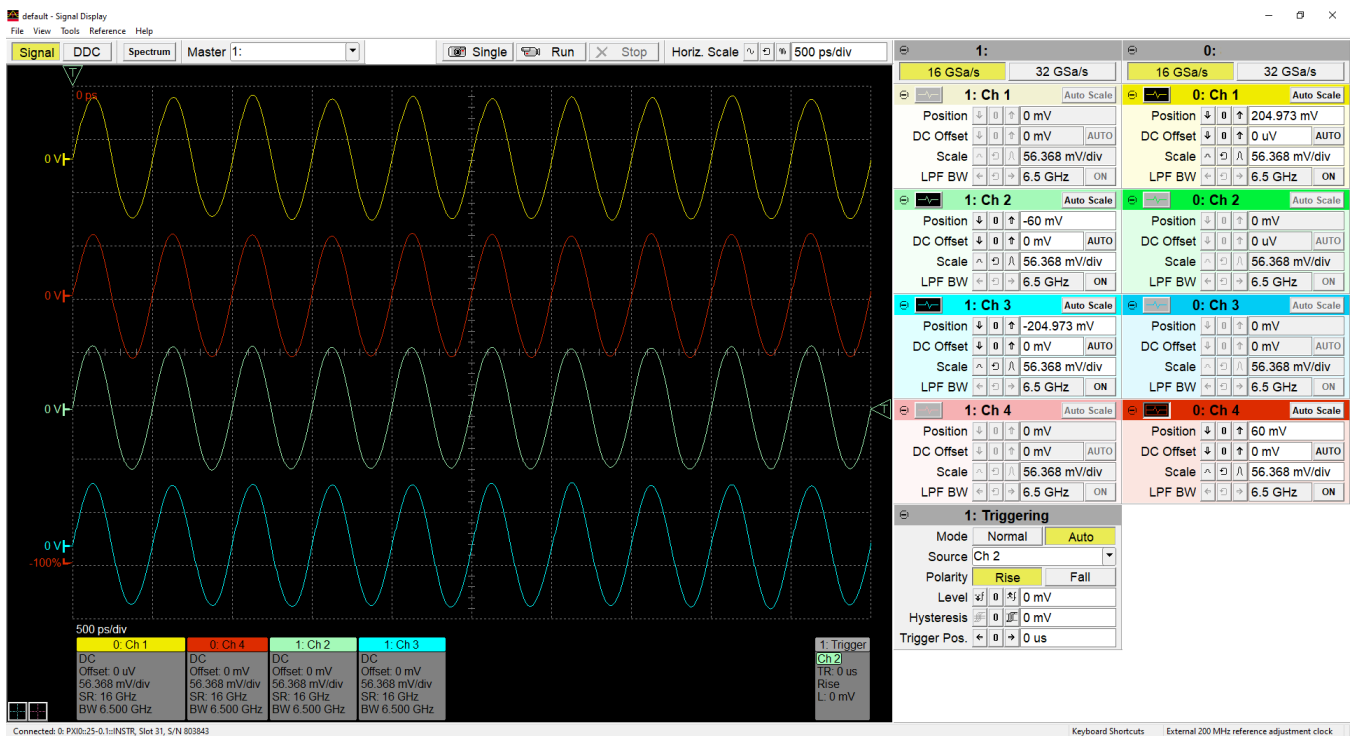

Figure 19. Signal (time domain) display with software control panel
- Signal Display mode – to observe input signal in time domain (See Figure 19)